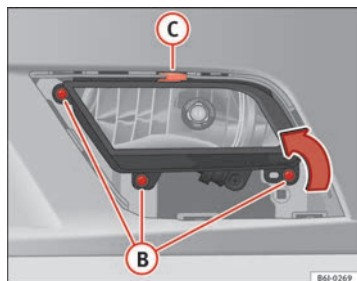

Fig. 167 Fog light
- Remove the bolts (3x) ⇒ Fig. 167 **B** to remove the fog light.
- Remove the metal clip situated on the upper part of the fog light pulling towards the exterior of the vehicle ⇒ Fig. 167 **C**. ■